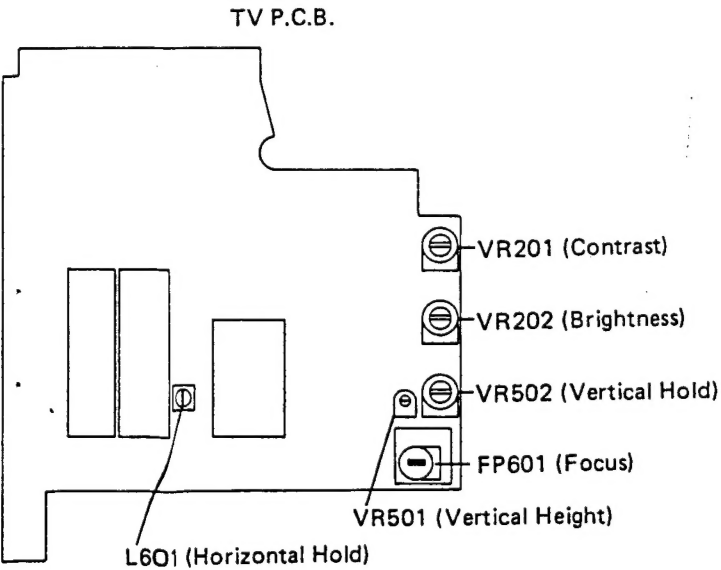

Figure 8
**PICTURE FOCUS (See Fig. 8)**
**VERTICAL HEIGHT (See Fig. 8)**
**HORIZONTAL HOLD CONTROL (See Fig. 8)**